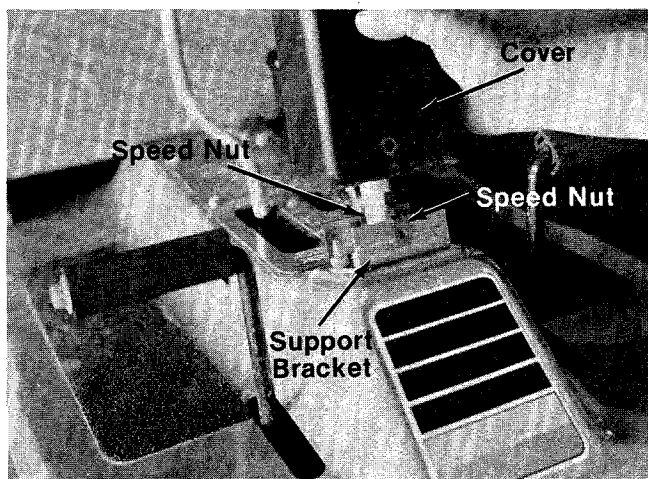

FIGURE 3.
5. Place two speed nuts on support bracket as shown in figure 3.
- ← 6. Place the cover over the steering tube assembly. Line up holes in cover with speed nuts. See figure 3.